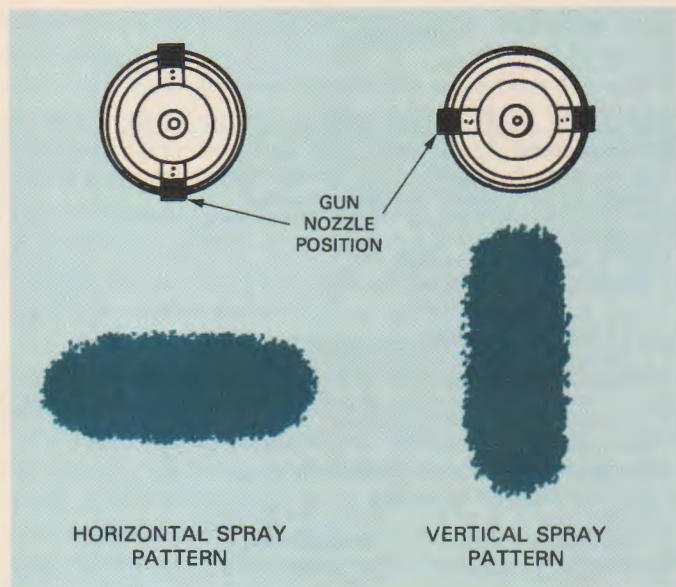

Fig. 46-15. Adjust the nozzle to attain the desired spray pattern. (DeVilbiss)
3. Turn the nozzle to create either a horizontal or vertical spray pattern, Fig. 46-15.